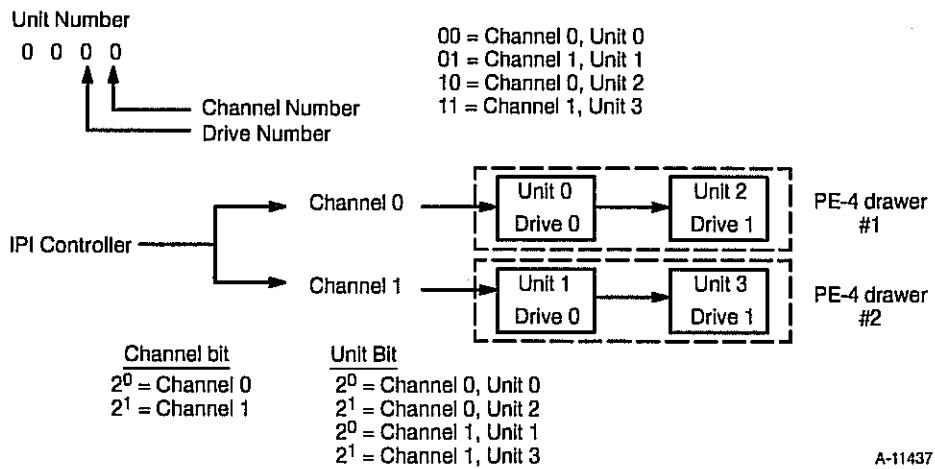

Figure 5-27. DD-4 (IPI) Disk Device Naming Conventions
Each DC-4 (IPI) controller supports two channels with up to two drives per channel. Bit  $2^0$  of the logical unit address represents the channel, and bit  $2^1$  of the logical unit address represents the drive's address on the channel. When a DC-4 is connected to four DD-4 drives (two per channel), the drives are addressed as units 0 through 3. Refer to Figure 5-27.
When four DC-4 drives are connected to a DC-4 controller, the drives are divided between two peripheral equipment (PE) drawers (two per drawer). Channel 0 of the controller daisy chains across the two drives in one drawer, and channel 1 daisy chains across the two drives in the second drawer. Within each drawer, one drive is set to logical address 0 and the other is set to logical address 1. Refer again to Figure 5-27.